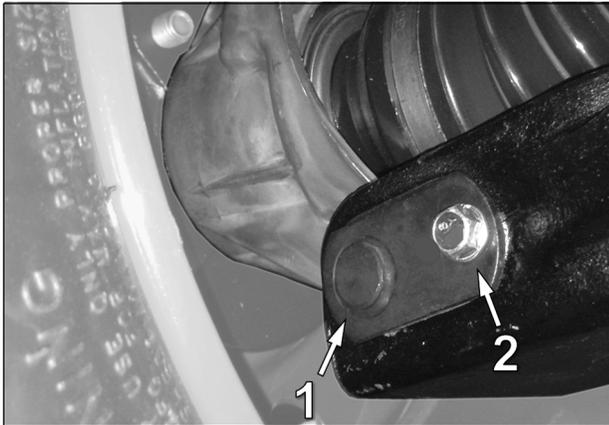

Fig. 5
- Loosen and remove flange bolt (2) to remove knuckle pin (1) and decouple lower suspension arm from wheel hub. See Fig. 5